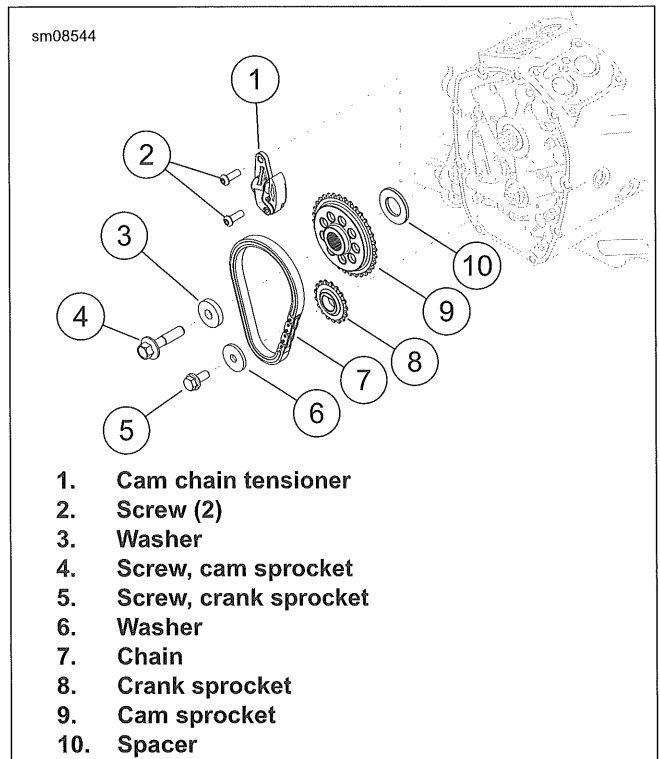

Figure 4-49. Camshaft Drive
1. See Figure 4-49. Remove chain and sprockets.
- b. Remove cam chain tensioner fasteners (2). Remove cam chain tensioner (1).
- c. Install CRANKSHAFT/CAMSHAFT SPROCKET LOCKING TOOL (PART NUMBER: HD-47941) between cam sprocket (9) and crank sprocket (8).
- d. Remove cam sprocket screw (4) and washer (3).
- e. Remove crank sprocket screw (5) and washer (6).
- h. Remove spacer (10).